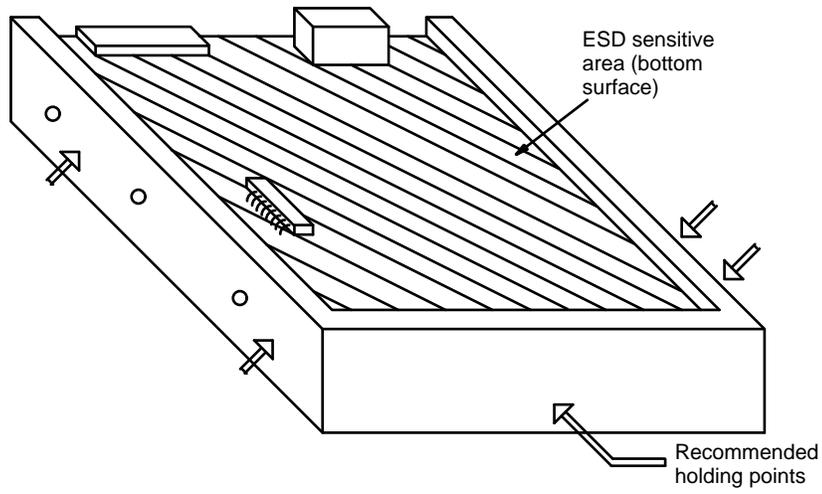

Figure 1-3. Electronic Component ESD Sensitive Area
- Hold devices such as a hard disk, floppy drive, or cartridge tape drive as you would a large circuit card. The ESD sensitive area of these components is located on the bottom surface. Hold these drives on the areas recommended in Figure 1-3.